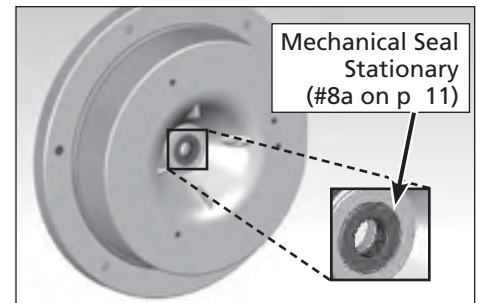

Figure 7
11. With a screw driver carefully pry old stationary seat from seal plate (see Figure 7). DO NOT SCRATCH SEAL BORE.